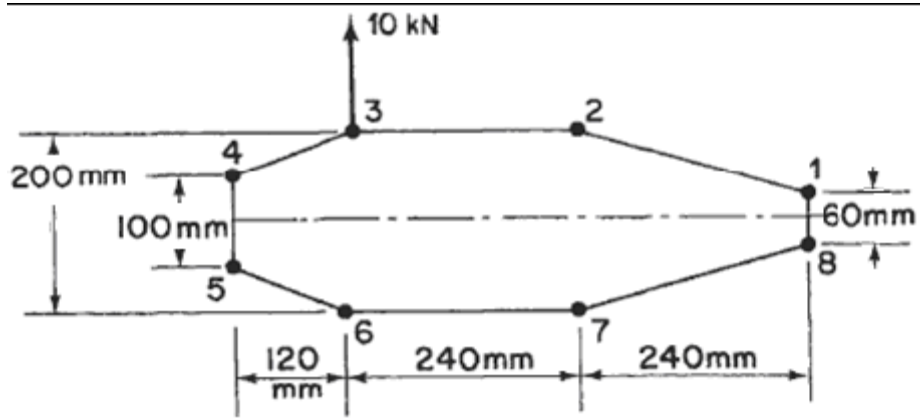

Figure 6:
6. The thin-walled single cell beam as shown in figure 6 has been idealized into a combination of direct stress carrying booms and walls carrying only shear stress. The section supports a vertical shear load of 10 kN acting in the vertical plane through booms 3 and 6. Calculate the distribution of shear flow around the section. Boom areas: $B_1 = B_8 = 200 \text{ mm}^2$, $B_2 = B_7 = 250 \text{ mm}^2$, $B_3 = B_6 = 400 \text{ mm}^2$, $B_4 = B_5 = 100 \text{ mm}^2$. [16]